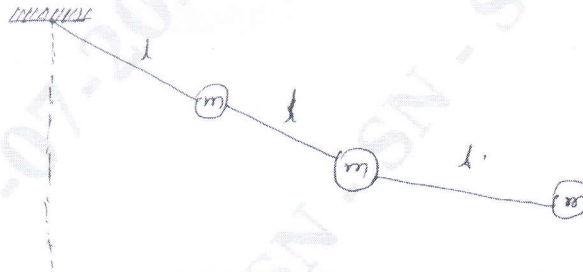

Fig.Q.9(a)
- 9 a. Determine the influence co-efficient of the triple pendulum shown in Fig.Q.9(a). (10 Marks)
- b. Using Stodola's method find the fundamental mode of vibration and its natural frequency of the spring mass system shown in Fig.Q.9(b). (10 Marks)